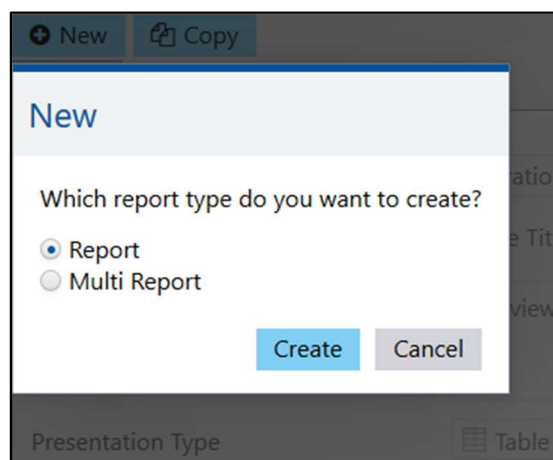

Fig. 153: Creating a new report
1. Click **New** in the display area (see Fig. 153).